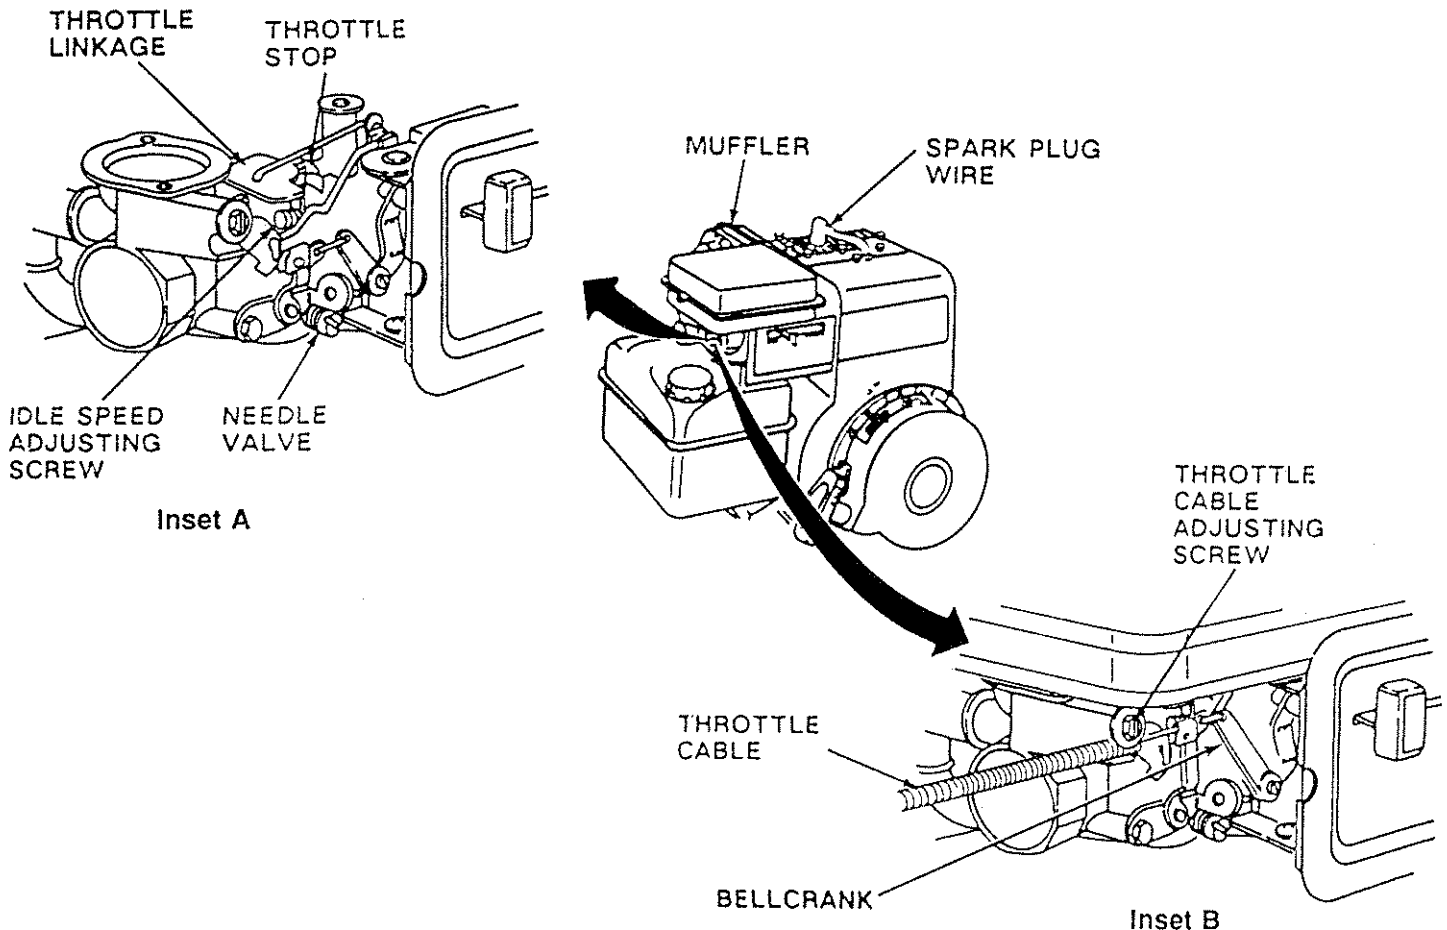

FIGURE 33
- a. Turn needle valve (Fig. 33-Inset A) clockwise (↻) until it just closes. Valve may be damaged by turning Needle Valve in too far.
- e. To adjust Idle RPM, Rotate Throttle Linkage (Fig. 33-Inset A) counterclockwise (↺) and hold against stop while adjusting Idle Speed Adjusting Screw (Fig. 33-Inset A) to obtain 1750 RPM. Release Throttle Linkage.
- a. Loosen Throttle Cable Adjusting Screw (Fig. 33-Inset B).
- b. With Throttle Control (Fig. 33) in "FAST" position and Cable connected to bellcrank (Fig. 33-inset B) pull Cable backward through screw until Bellcrank is as far rearward as it will go.